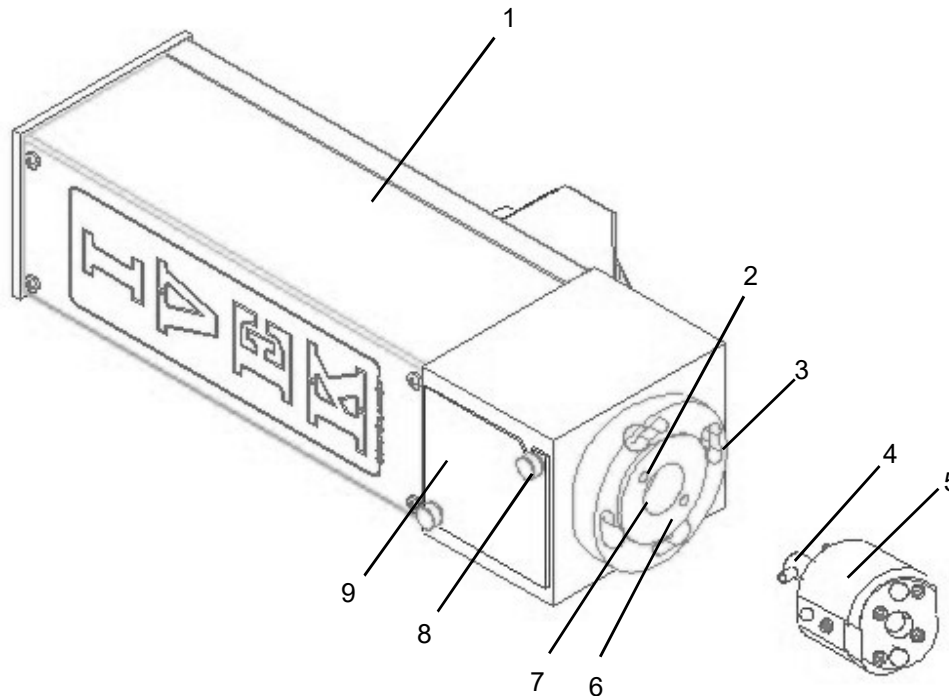

Figure 7.3 Micro SL Pump Module Assembly/Disassembly
7.5.3.1 Pump Module (Figure 7.3)
4. Position case (2) with fittings installed onto end cap retainer (4), with installed components.
5. Secure with four #4-40 socket head cap screws (5) and torque screws (5) to 5 in lbs.
7.6. PROBLEM GUIDE**7.6.1 Piston Seized In The Cylinder (Figure 7.3)**